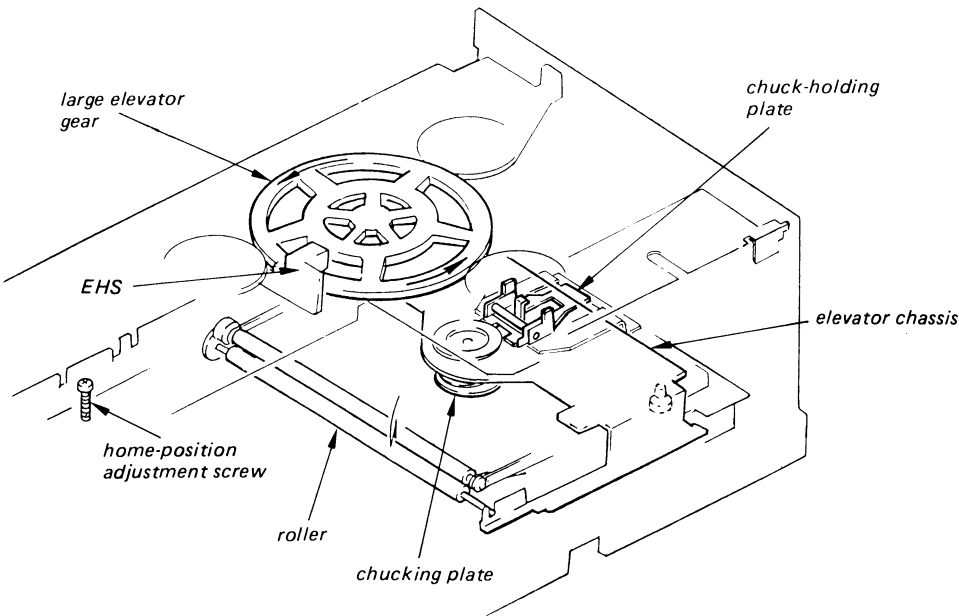

Fig. 3
- 9. Fine adjust the position of the large elevator gear with the home-position adjustment screw shown in Fig. 3.